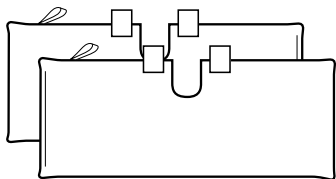

fig. 14
- 1 We recommend washing your cleaning pocket separately from other fabrics to avoid picking up lint. **Only use liquid detergent (no powder detergent). Do not use any fabric softeners or bleach.** Line dry. Do not tumble dry. (fig. 14)